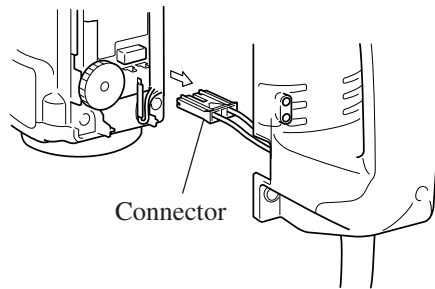

Fig. 11
- (4) Disassemble connector as illustrated in Fig. 11.